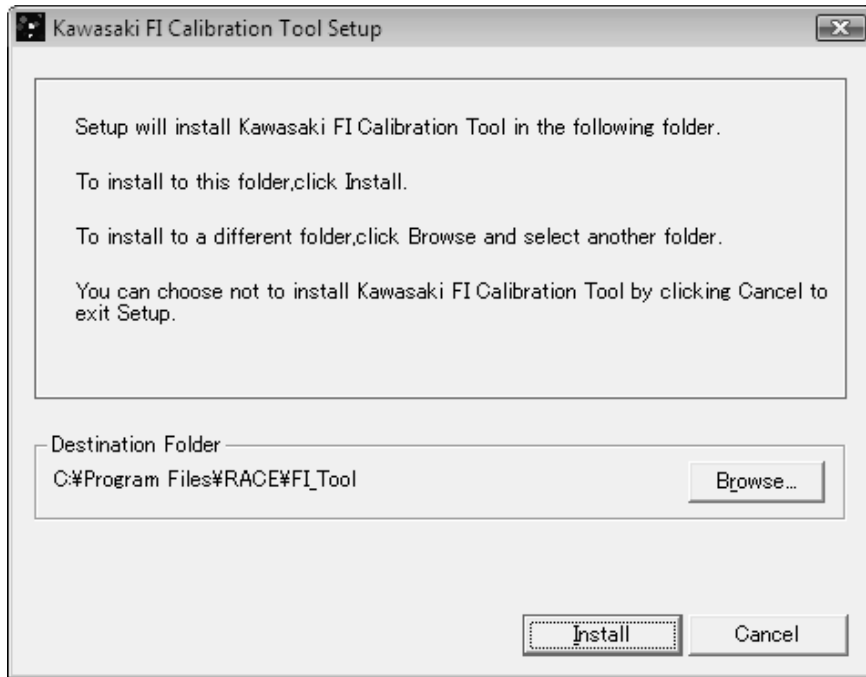

Fig. 16 Choosing Destination Folder
(9) The destination folder selection screen shown in Fig.16 appears.